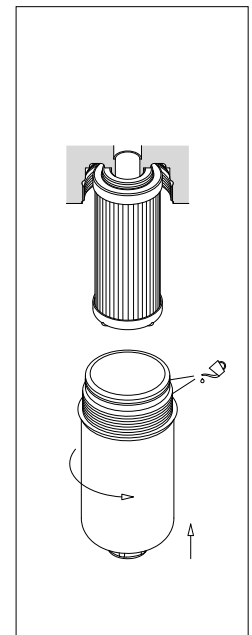

fig. 17
- (Fig.17) Lubricate the thread and the O-ring of the bowl, then screw the bowl in referring to the tightening torque table in paragraph 3